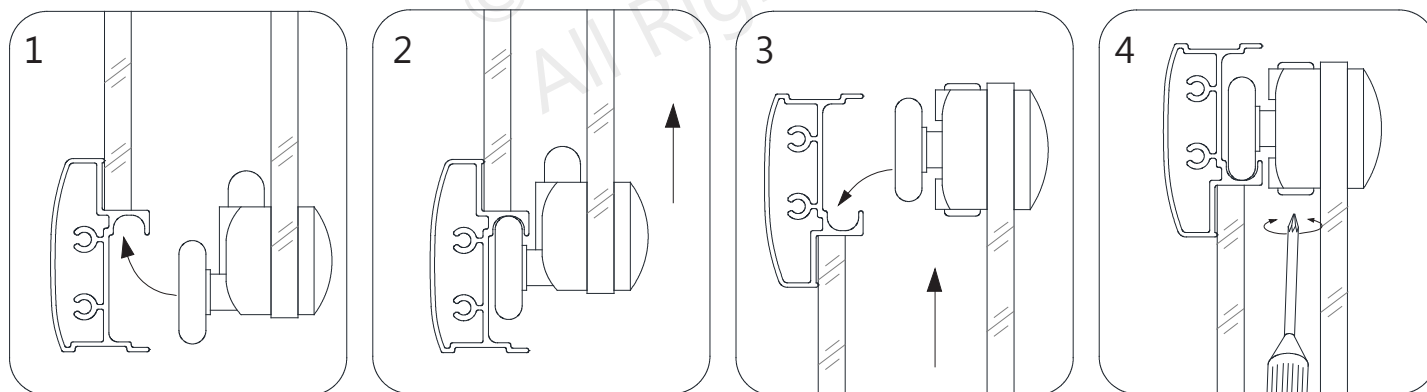

Fig 12
12. From inside the shower, insert the **Bottom Wheel Assemblies (#17)** into the bottom **Guide Rail (#03)** (Fig 12.1-2), lift the door up and set the **Top Wheel Assemblies (#17)** into the top **Guide Rail (#03)** (Fig 12.3). Test the operation of the door, and if necessary, use a #2 Phillips screwdriver (do not use a power screwdriver) to adjust the upper wheels so the door rolls smoothly and closes tight. **(Fig 12)**